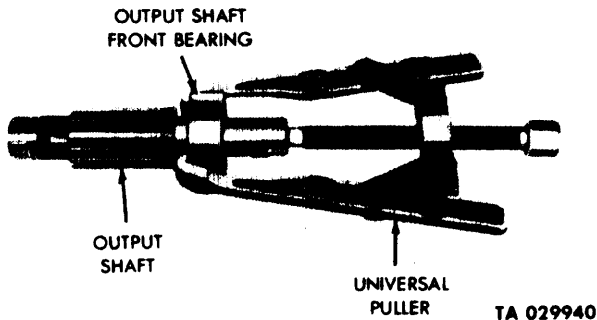

Figure 5-14. Removal of Output Shaft Front Bearing.
j. Output Shaft Front Bearing. Using a universal or suitable puller, pull the output shaft front bearing from the shaft. (See fig. 5-14.)
- b. Output shaft front bearing. (See fig. 5-14.)